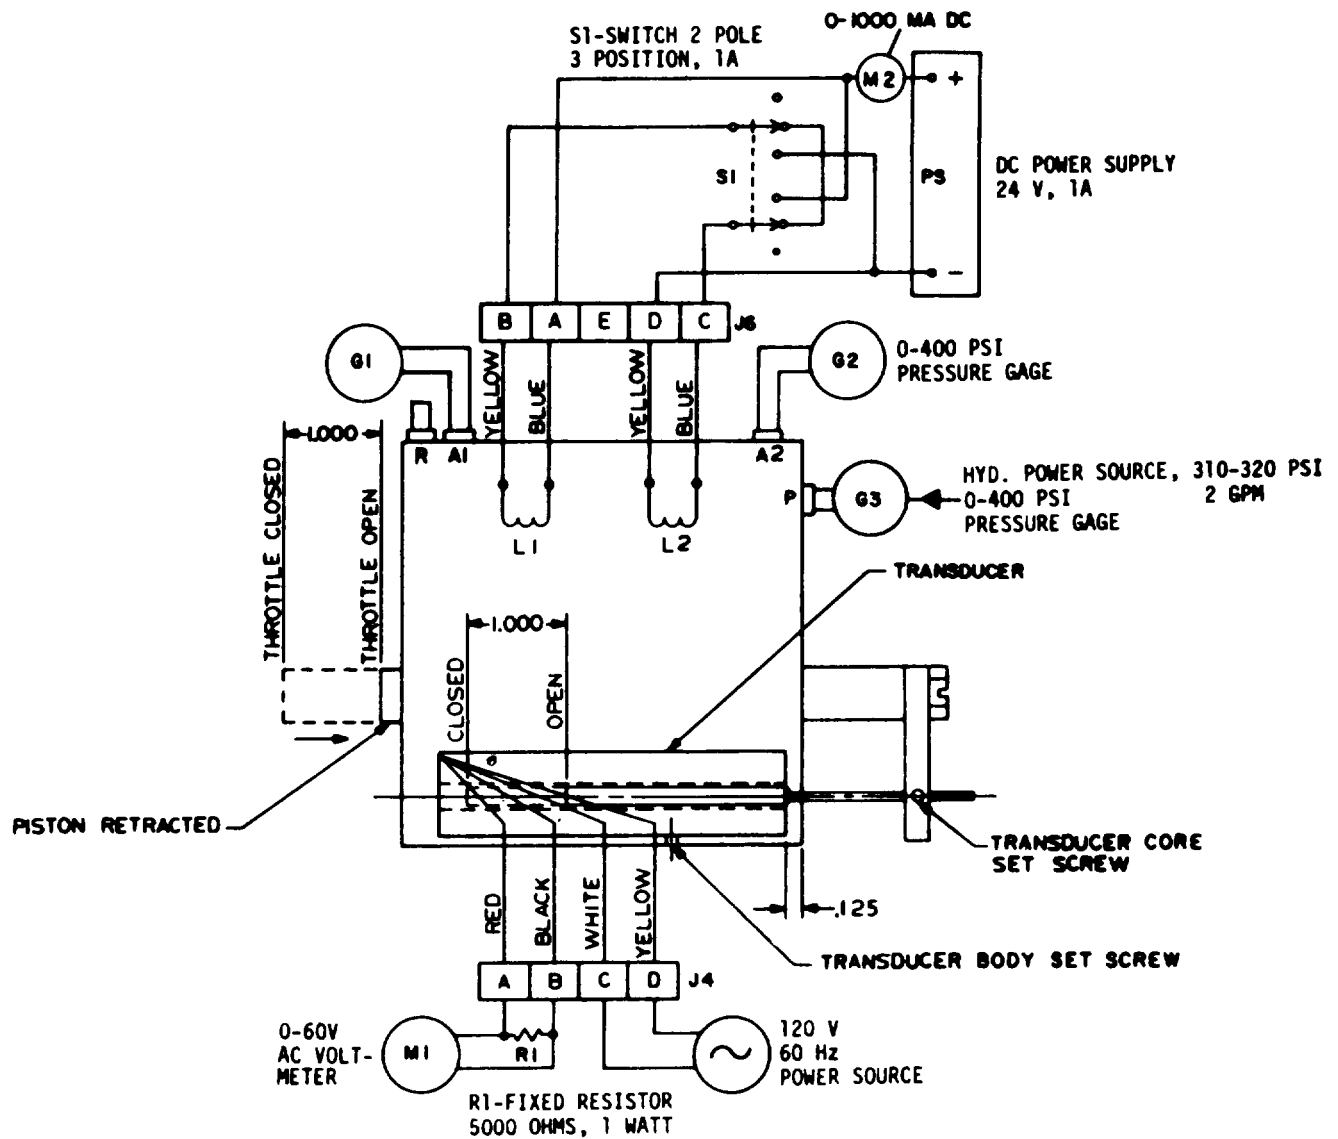

Figure 3-40. Hydraulic Actuator Tests, Schematic Diagram
(1) Actuator Valve and Piston Test.
- (a) See figure 3-40 to perform the valve and piston test.
- (e) With hydraulic power but no electric power applied, adjust the valve with Allen set screw to yield 200 psi \pm 10 psi at A1 port (gage G1) and 150 psi \pm 10 psi at A2 port (gage G2). (See figure 3-40).
- (h) Set switch S1 to connect power (PS) to coil L2 and apply 700 ma \pm 40 ma. Pressure at A1 port (gage G1) shall be 310 to 400 psi. pressure at A2 port (gage G2) shall be 0 to 20 psi.
- (i) Set switch S1 to connect power (PS) to coil L1 and apply 700 ma \pm 40 ma. Pressure at A1 port (gage G1) shall be 0 to 40 psi and pressure at A2 port (gage G2) shall be 310 to 400 psi.
- (2) Throttle Position Transducer Test.
- (a) With voltmeter (M1), resistor (R1) and 120 \pm 1%, 60 Hz) power source connected as shown in figure 3-40, move piston to fully open throttle position.